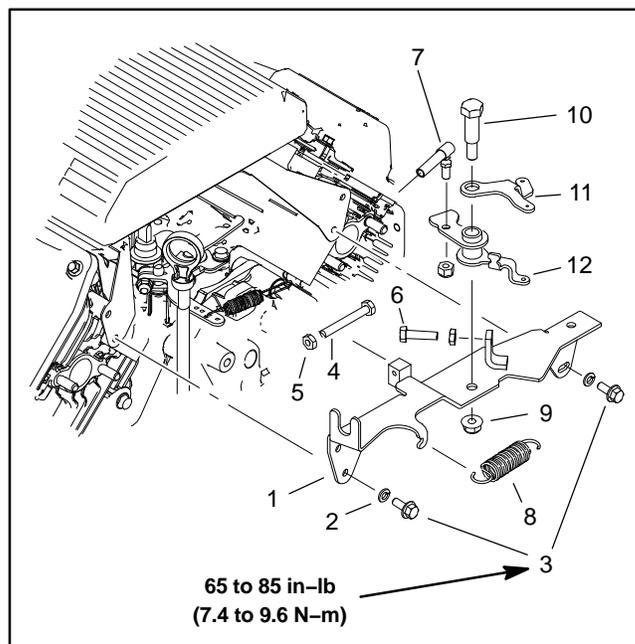

Figure 17
7. Remove throttle bracket assembly if necessary (Fig. 17).
3. Install throttle bracket assembly if removed (Fig. 17). Tighten mounting screws from **65 to 85 in-lb (7.4 to 9.6 N-m)**.
C. Place two (2) button head screws (item 14) in position in sprocket adapter (item 16). Install sprocket adapter and lock nut on engine shaft. Make sure sprocket adapter is fully engaged with sprocket and tighten lock nut from **100 to 130 ft-lb (136 to 176 N-m)**.
D. Place two (2) button head screws (item 14) in rubber coupler (item 13). Position rubber coupler over screws in sprocket adapter and install flange nuts. Tighten flange nuts from **15 to 20 ft-lb (20 to 27 N-m)**.
7. Position key into hydraulic pump shaft and apply anti-seize lubricant to pump shaft and key. Align pump shaft with hub and install pump to mounting plate with fasteners shown. Tighten pump mounting fasteners from **27 to 33 ft-lb (37 to 44 N-m)**. Tighten two (2) pump hub set screws from **90 to 110 in-lb (10 to 12 N-m)**.